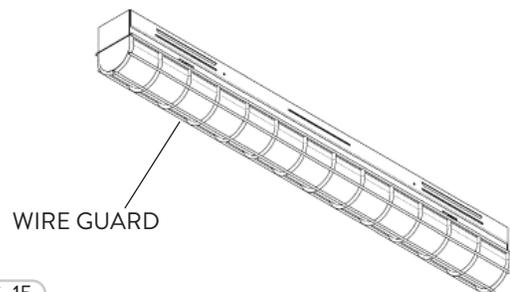

FIG. 15
- 2 The FSLE fixture with the Wire Guard installed (Fig. 15).